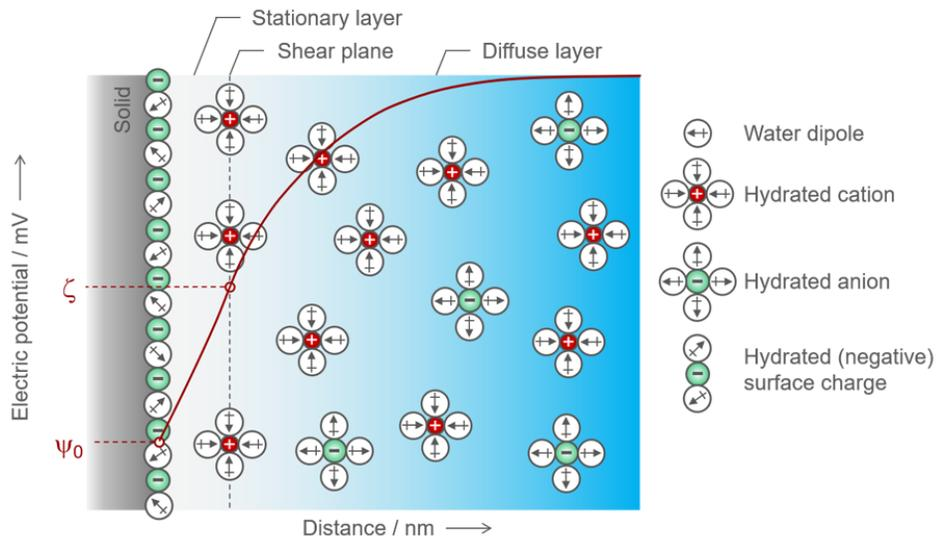

Figure 2: Model of the electrochemical double layer at the solid-liquid interface (Ψ_0 is the surface potential; ζ is the zeta potential). Image from [6].
With the model of the electrochemical double layer (EDL) the origin of the electrokinetic or Zeta potential can be explained. The layers involved are a stationary layer of negatively charged ions adsorbed to the particle surface (surface charge), electrically screened by a loosely bound layer of hydrated cations, as depicted in Figure 2. The thickness of the EDL is defined by the Debye length in Equation (6).